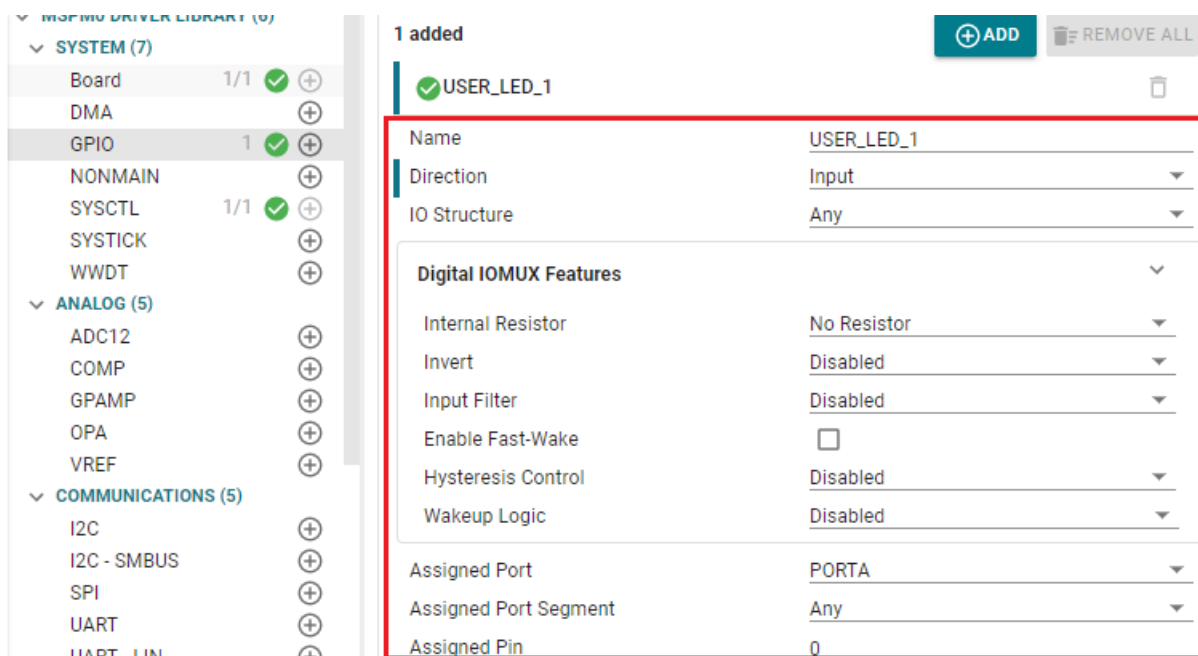

Figure 2-4. GPIO Configuration in SysConfig
- SysConfig supports more comprehensive configuration capabilities. Different from STM8CubeMX, which can only config pinout or simple configuration for peripheral, SysConfig provides more specific and detailed initialization configurations. As shown in Figure 2-4, SysConfig can configure the type of GPIO as well as features such as internal pull-up or pull-down resistors.